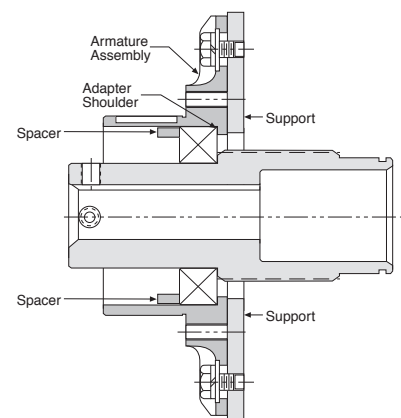

Figure 43
18. Install the spacer (Item 6) as shown in Figure 43.